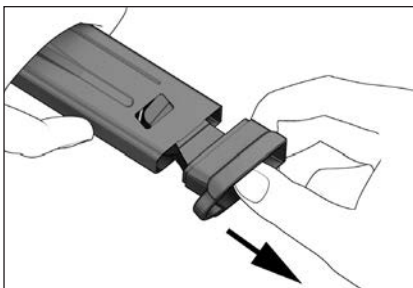

Figure 30
3. With the locking insert still depressed, squeeze the floor plate locking tabs located on the right and left sides of the magazine (see Figure 30).